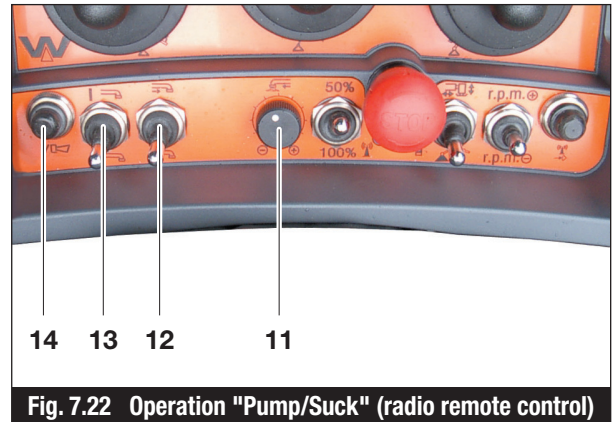

Fig. 7.22 Operation “Pump/Suck” (radio remote control)
The stroke rate depends on the setting of the stroke rate potentiometer (Item 11, Fig. 7.22) and the engine speed.
Opening the safety grill or pressing an Emergency Stop button (whilst the “Pump/Suck” switch is activated), will deactivate the “Pump/Suck” function, which must then be restarted by switching the rocker switch (Item 13, Fig. 7.22) off and on again.
- Switch on the “Pump/Suck” function using rocker switch (Item 11, Fig. 7.6) or rocker switch (Item 13, Fig. 7.22)
- Switch on the “Pump/Suck” function using rocker switch (Item 11, Fig. 7.21) or rocker switch (Item 13, Fig. 7.22)